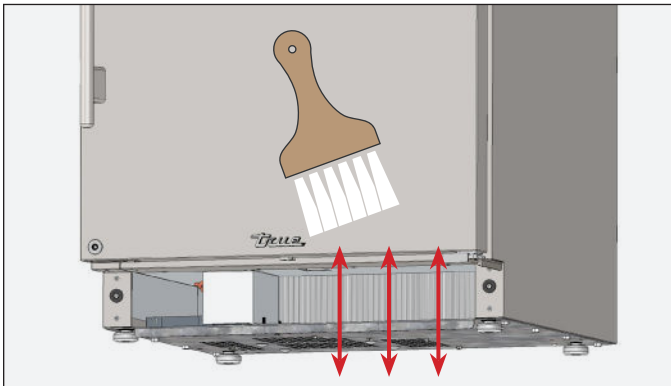

FIG. 2. Never brush across coil fins.
2. With a stiff bristle brush, carefully clean accumulated dirt from the front coil fins. See fig. 2.